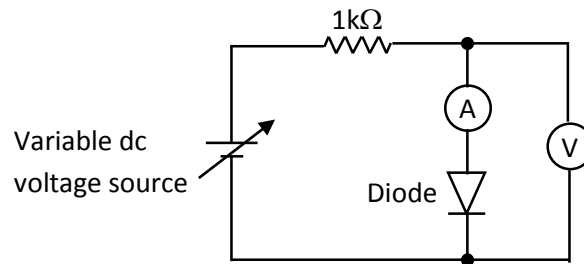

Figure 8: Circuit diagram of the forward bias diode
2. Connect the circuit shown in Figure 8. Show the circuit to your demonstrator before turning on the power to the circuit.
6. Change the polarity of the diode in Figure 8.